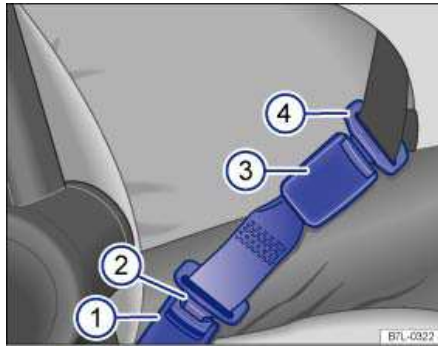

Fig. 70 A safety belt extender properly attached to the factory-installed safety belt.
#### Key to fig. 70:
- Insert the buckle tongue on the safety belt extender ⇒ fig. 70 \(2\) into the vehicle belt buckle for the seat where the safety belt extender is being used \(1\).